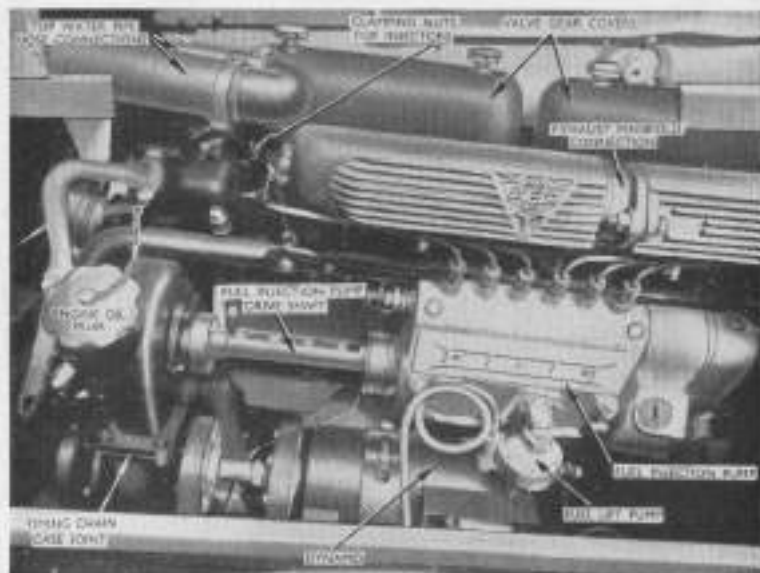

Fig. 13. Nearside View of Engine.
If a leak is detected, stop the engine, then tighten the clamping nuts (*Fig. 13*), taking care to avoid over-tightening.
(iv) EXHAUST MANIFOLD JOINTS (Fig. 13).
- (f) Valve gear covers (Fig. 13).
- (g) Timing chain case to crankcase (Fig. 13).
- (a) The long top hose (*Fig. 13*).
- (b) The short top hose (*Fig. 13*).